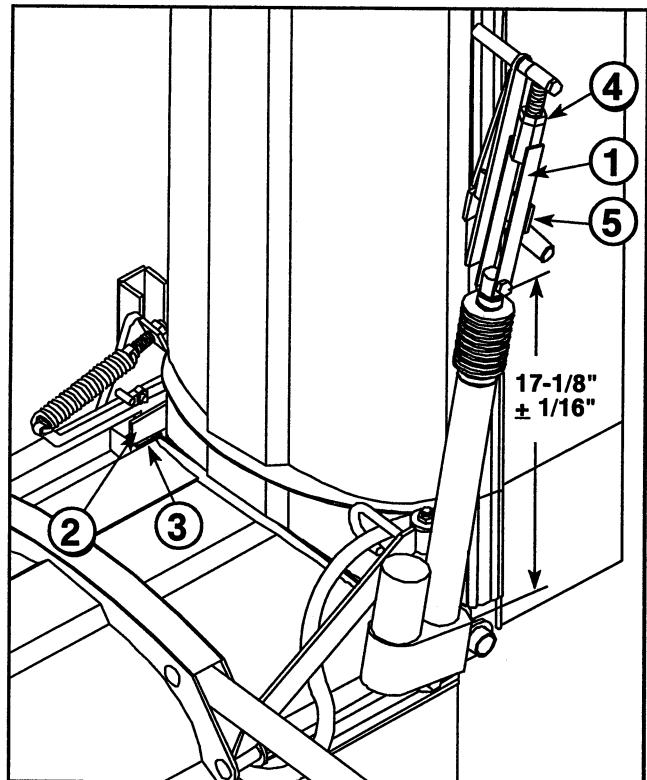

FIG. 4
2. Measure the length of the Actuator. It should be 17-1/8" ± 1/16" from the face of the Actuator Front Housing to the cap screw. (FIG. 4)